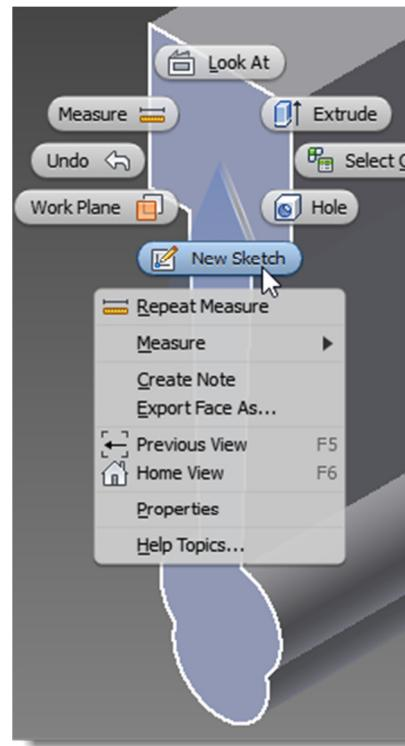

fig. 8
3) Now you have your new solid geometry that you could export out of AIP as an RFA (Revit Family file), or ADSK, or SAT, etc. Or using AIP's iCopy technology, you could create the entire curtain wall right here in AIP and ADSK that back to the architect. (**Note** - For an excellent treatment on iCopy for curtain walls, see Rob Cohee's 10 min video and 3 min video, in that order.) But in the case of curtain walls, there's a workflow even more expedient not just for the architect, but for the fabricator as well. It is to make a sketch of the mullion end and export *that* as a dwg. If I make a sketch of the end *after I shell the mullion* and export as a dwg (see figs. 8 & 9), I have all the information I need as a fabricator to create the extrusion die shape I need. If I *sketch the end the mullion as a solid* and export that as a dwg, I have a dwg outline file that in the case of Revit curtain walls, I can send back to the architect that will just *THRILL* him or her. Why?? That's a very good question – I'm glad you asked!